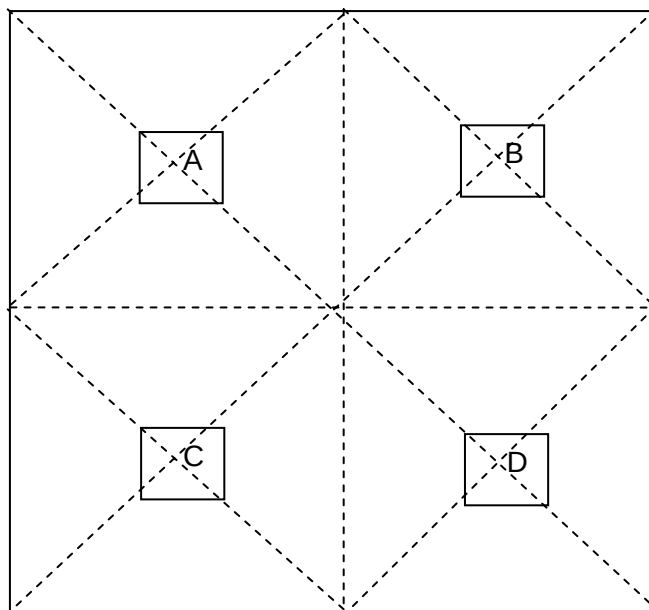

Figure 4-1. Positions A, B, C and D are centered at each quarter of the base platform.
1. Place test weights equal to one third of the Base's capacity sequentially at each of the positions A, B, C, and D, as shown in Figure 4-1. Note the Indicator reading at each position. (For Base capacity, see Table 1-1.)